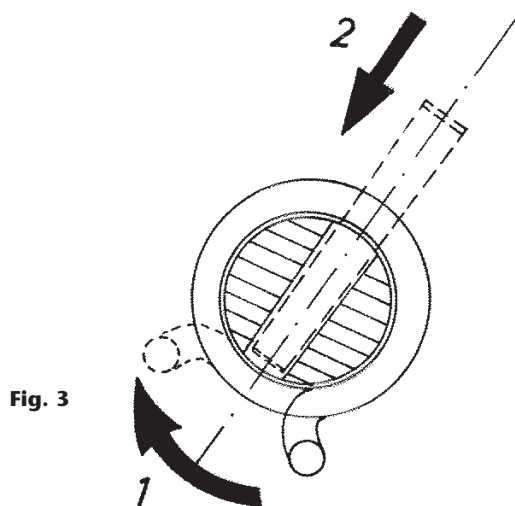

Fig. 3
4. Lift the inside end of the spring with the help of a screwdriver until pin bearing is surpassed (fig. 3). Introduce this piece completely.